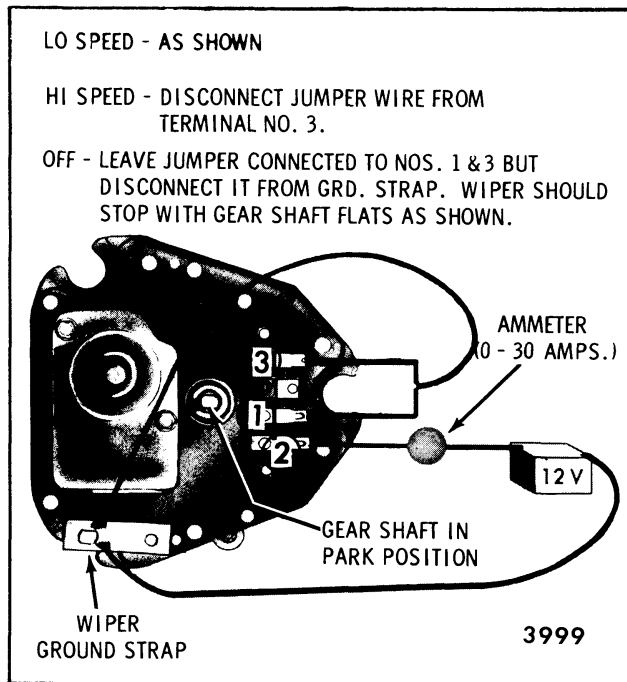
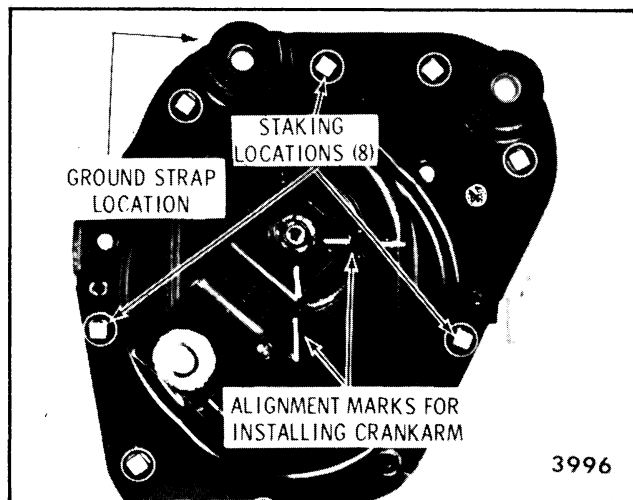

Fig. 2-5-Jumper Wire Connections
Fig. 2-13-Staking Locations
3. Disconnect wiring harness from wiper and try operating wiper as shown in Figure 2-5.
**DIAGNOSIS CHART - WIPER OFF CAR** (FIGURES 2-5, 2-10 and 2-11)
4. Drill out staking that secures gear box cover (Fig. 2-13). Use a 9/32" drill.
8. To reassemble crankarm in proper position, operate wiper to park or "OFF" position (Fig. 2-5) and install crankarm so that index marks on crankarm line up with those on the gear box cover (Fig. 2-13).
9. Operate wiper (Fig. 2-5) and check performance per data in specification chart (Fig. 2-19).